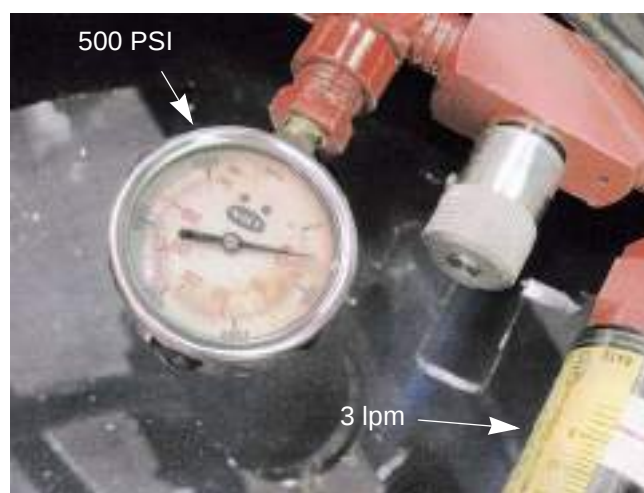

Figure 3.18
- D. Record the pressure reading on the worksheet. See Figure 3.18.